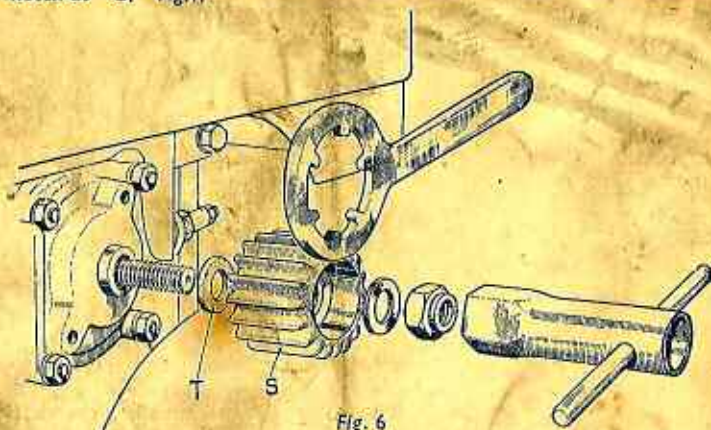

Fig. 6
- (1) First grasp the roller with the special spanner or large pair of pliers and undo the retaining nut Fig. 6. It is important that this instruction be followed carefully, as if an attempt is made to unscrew the nut while holding the magneto, damage to the crankshaft may result.
- (2) Having removed the nut and washers, the roller itself may now be unscrewed. It should come away quite easily and in this case it is permissible to grasp the magneto. If the roller will not unscrew easily it should be soaked in freeing oil and another attempt made after the oil has penetrated into the thread.
- (3) Reverse the operations to fit the new roller, making sure that the washers are replaced in the correct order, i.e., the fibre washer "T" should be fitted between the crankcase and the roller "S," Fig. 6.